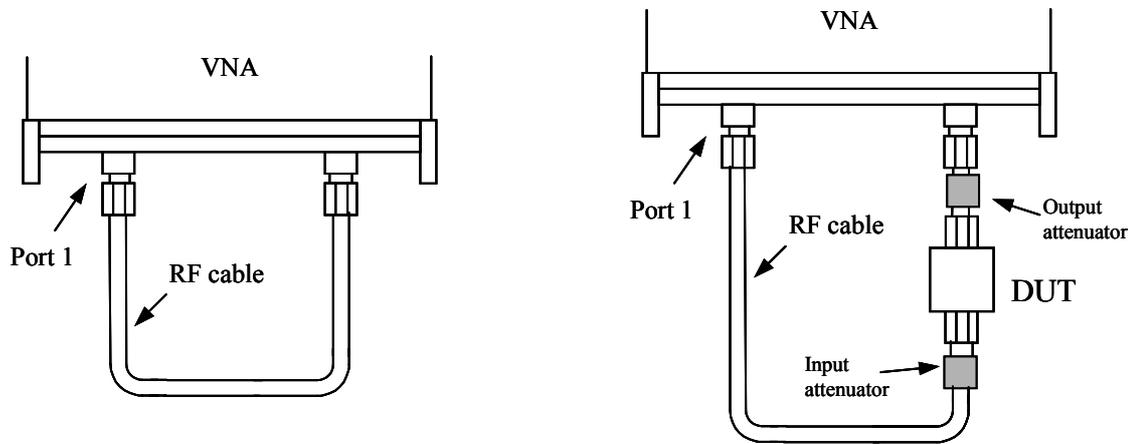

Figure 5.37 Calibration (left) and test connections for AM to PM test
- Perform a normal S21 calibration (or S11+S21, or 12-term), see left hand side of Fig. 5.37
- Click on Calibrate button (connection as on left-hand side of Fig. 5.37)
- Connect DUT with attenuators as shown on right hand side of Fig. 5.37
Note: For best AM-PM results apply some averaging (e.g. 16) and carry out an AM-PM calibration (left hand side of Fig. 5.37). A ‘?’ will displayed if the requested Pin for readout is outside the available range.